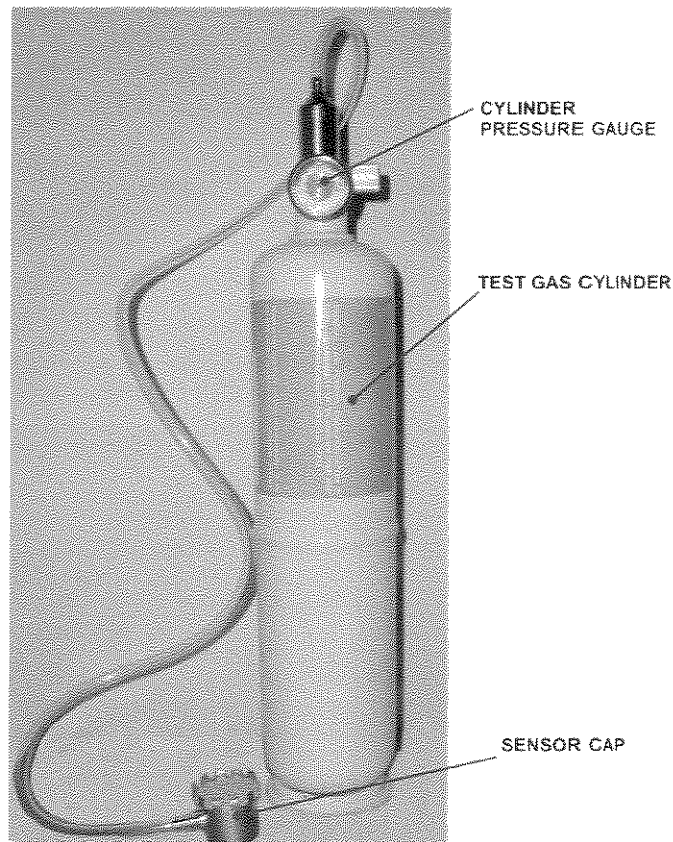

Figure 3-20 Test Gas Kit
1. Set up the span gas cylinder assembly, (see Figure 3-20), by the sensor in the Burn Room and remove the protective cover by undoing the two nuts on the bottom of the cover.